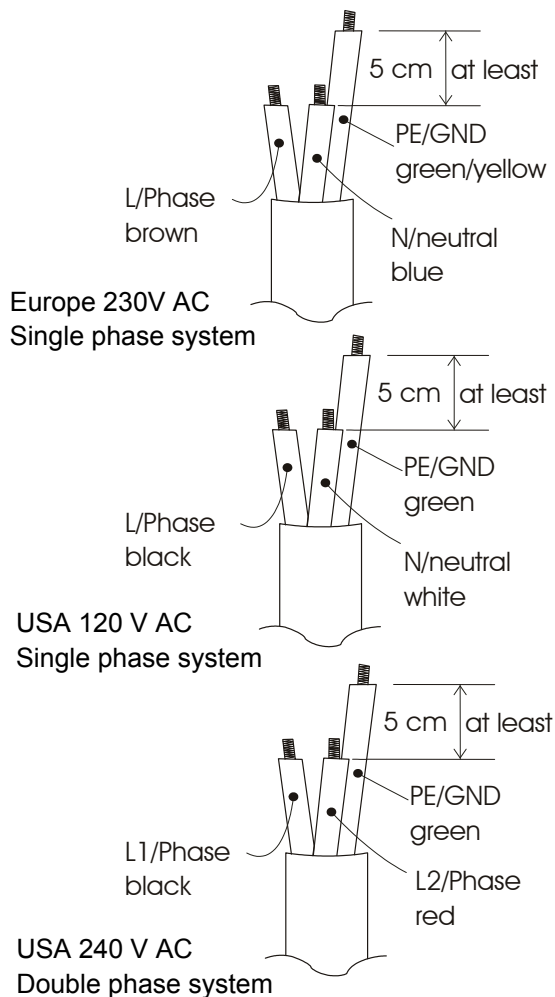

Figure 11: Wiring
The wiring is connected inside the connection compartment. If necessary, the cabling can be fed from the top to the bottom side of the cabinet along the back of the cabinet. Always feed the wiring through the cable glands (fig.1 ref. 5) of the cabinet, and then connect the wiring to the terminals. Cut the wiring as shown in figure 11. Strip the conductors for 8 mm.